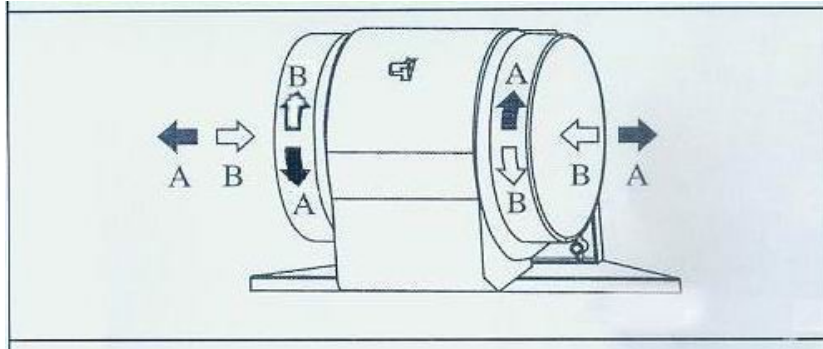

Fig.4
If the model of your chimney hood need to shift from pipe emission to filter model ,you can get help from the installation instruction after you get the charcoal filters. (Fig.4)
- The active carbon filters purify the air that is replaced in the environment. The filters are not washable nor re-useable and must be replaced at maximum every four months.(Fig.4)